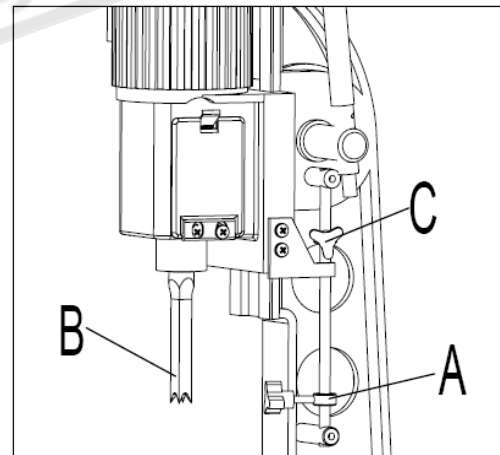

Fig6
A depth stop guide (A) Fig. 6, is provided to limit the depth of the chisel (B). To adjust the depth stop guide (A), loosen handle (C) and lower head until the chisel (B) is at the desired depth. Lower depth stop guide (A) until it is at the desired depth, tighten handle (C).